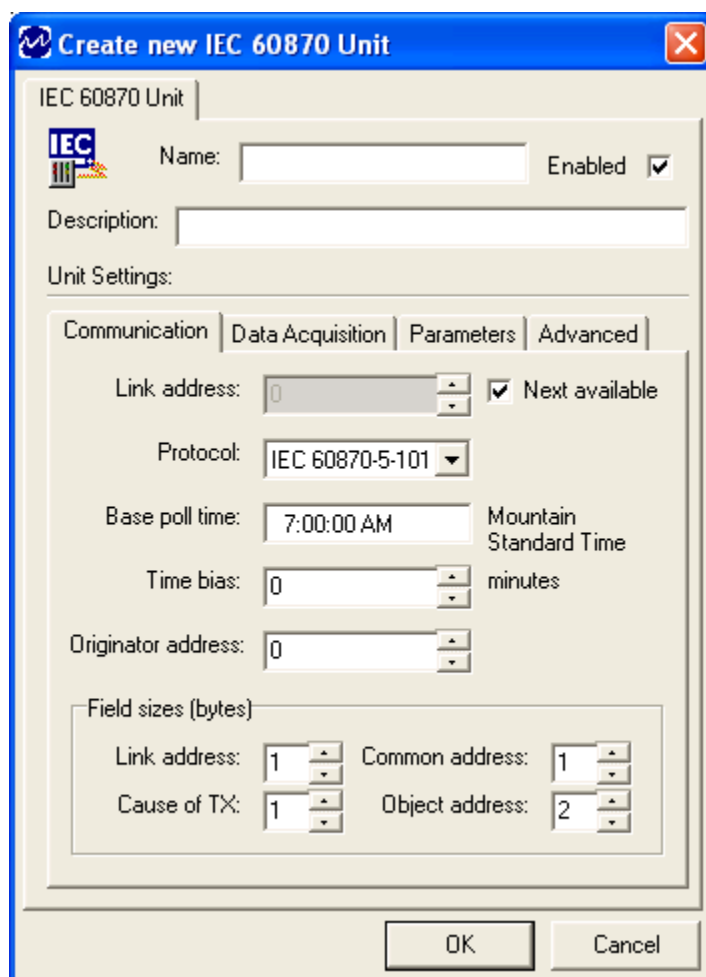

Figure 39 - Create New IEC 60870 Unit Window - Communication Tab
The **Create New** window (Figure 39) displays the settings available when creating an **IEC 60870 Unit** object.
The Create New **IEC 60870 Unit - Communication** tab (Figure 39) includes settings for the link address, protocol, base poll time, time bias, originator address, and the field sizes for the link address, cause of transmission, common address, and object address.
5. The **Create New** window appears (Figure 39).